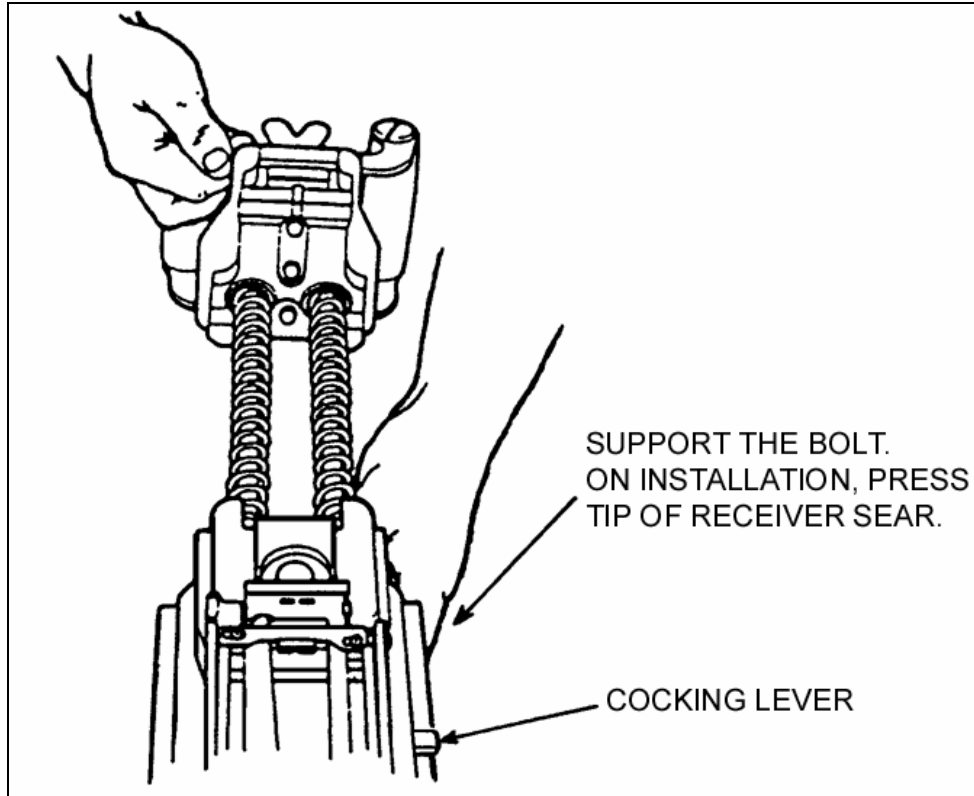

Figure 2-25. Installation of the bolt and backplate assembly.
- (9) Engage primary drive lever by following these procedures:
- (10) Install bolt and backplate assembly. With the sear assembly on the gun, assemble bolt and backplate using the following procedure (Figure 2-25):